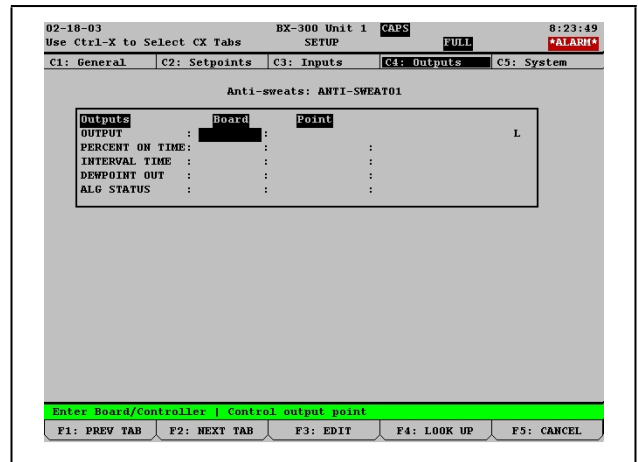

Figure 4-7 - Anti-Sweat Outputs Setup Screen
5. Press **F2** (NEXT TAB) to advance to the Outputs Setup screen (Figure 4-7).